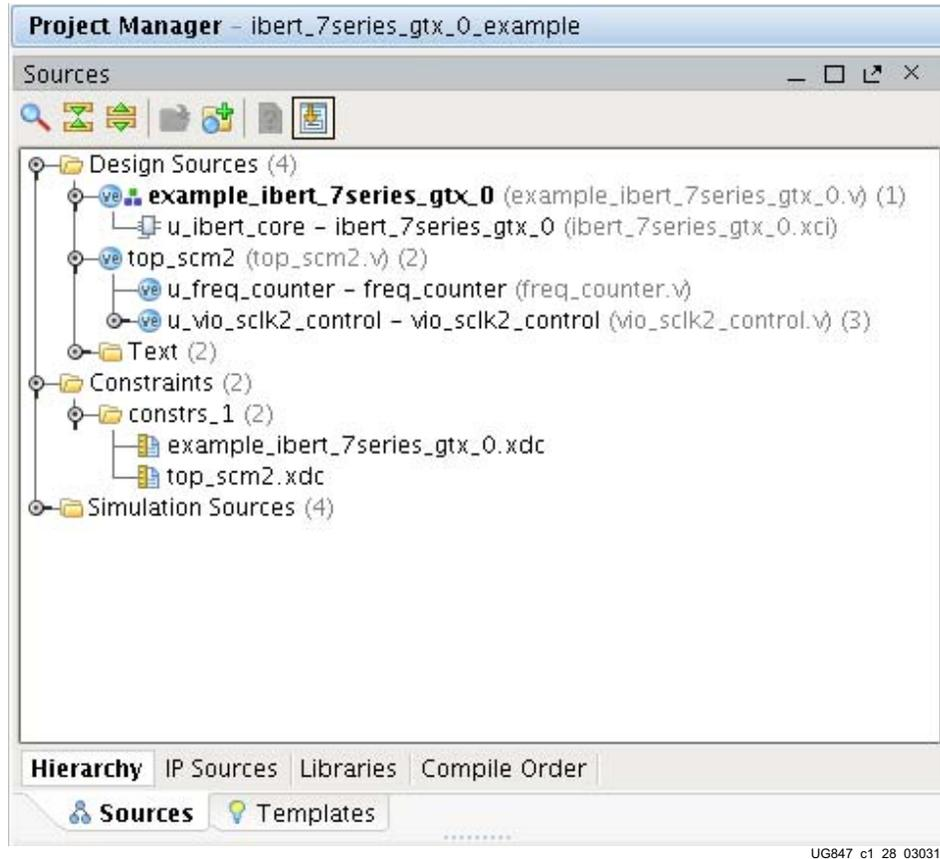

Figure 1-28: Sources after Running `add_scm2.tcl`
- In the new window, select **Tools > Run Tcl Script**. In the Run Script window, navigate to `add_scm2.tcl` in the extracted files and press **OK**. The SuperClock-2 Module Design Sources and Constraints are automatically added to the example design (Figure 1-28).